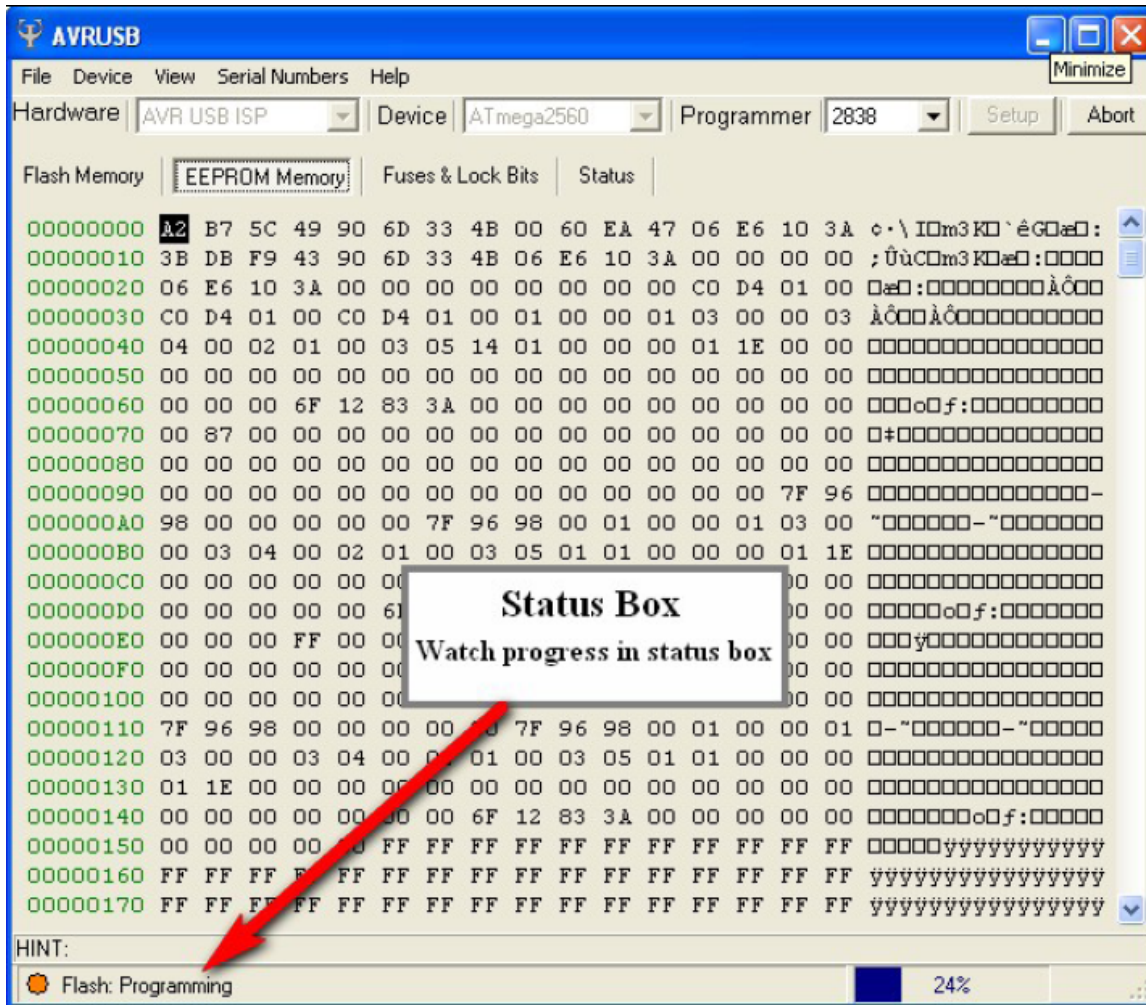

Figure 18
16. While programming, a progress bar will be displayed in the Status Box located at the bottom right of the AVR screen along with a message indicating the current activity being performed. See Figure 18.